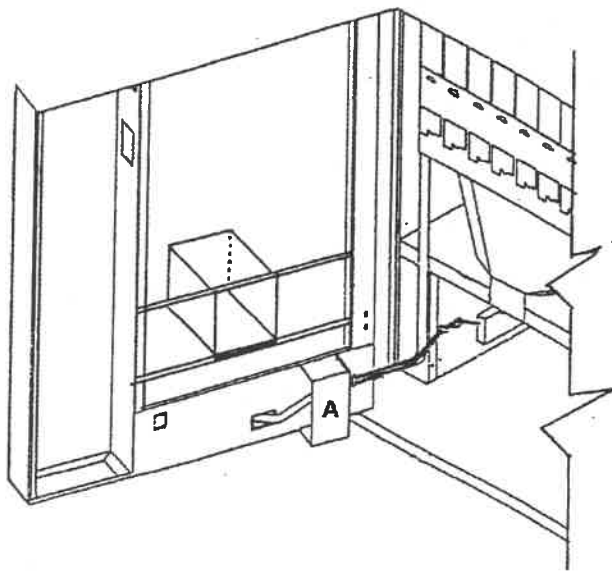

Figure 1
2. Remove the wire plug cover on the main door by removing two screws (see "A", figure 1).